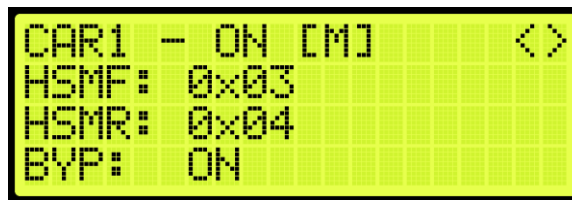

Figure 272: Front and Rear Hall Security Mask Status
11. From the Front and Rear Hall Security Mask Status (See Figure 272), press the right button.